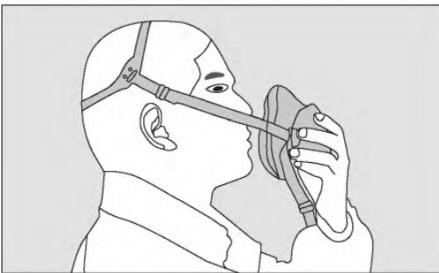

Fig. 1
- 1) Put the top headband on the head (Fig. 1) .